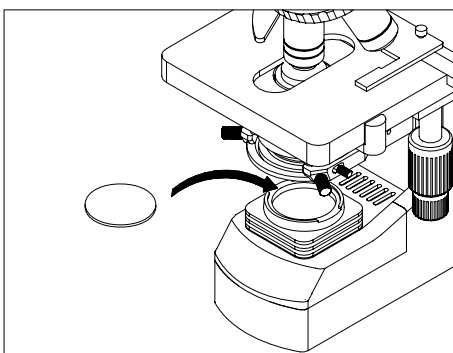

Fig.7
2.4 Mounting the filters (Fig.7)